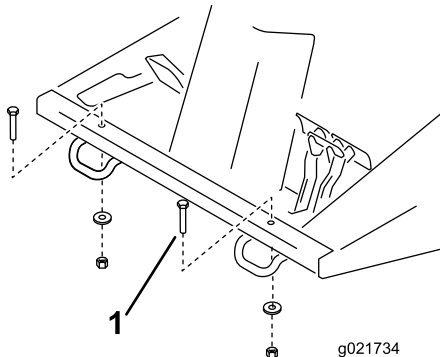

Figure 10
1. Remove the (2) bolts, washers and nuts from the front of the operator's platform (Figure 10).